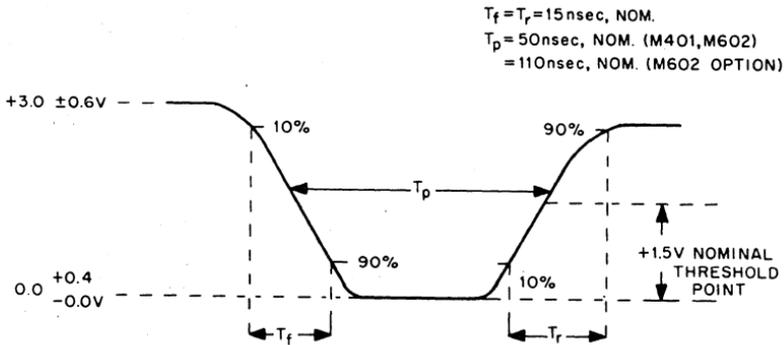

Figure 17. Standard Pulse
**Standard Timing Pulse:** In digital system design, a reference for system timing is usually required. The M Series modules M401 or M405 produces a standard pulse which provides such a reference. The standard pulse derived from each of these two modules is shown in Figure 17.
**NAND Gate and Power Amplifier Propagation Delays:** The standard pulse (Figure 17) is distributed throughout a system in negative form to maintain the leading edge integrity. (Since the TTL gate drives current in the logic 0 state, the falling edge is more predictable for timing purposes.) However, the standard pulse is of the wrong polarity for use as a clocking input to the type D and J-K flip-flops, requiring the use of a local inverter. Ordinarily, a NAND inverter is adequate. Where high fan-out is necessary, a M617 Power NAND is preferred.